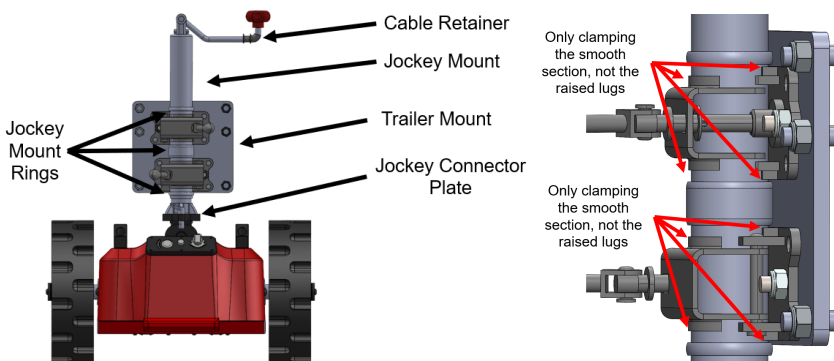

Figure 10 — Safe-T-Mover with Jockey attached to trailer mount
3. Adjust the height of your trailer or the Jockey so the rings on the Jockey straddle each of the trailer mount clamps as seen in Figure 10.